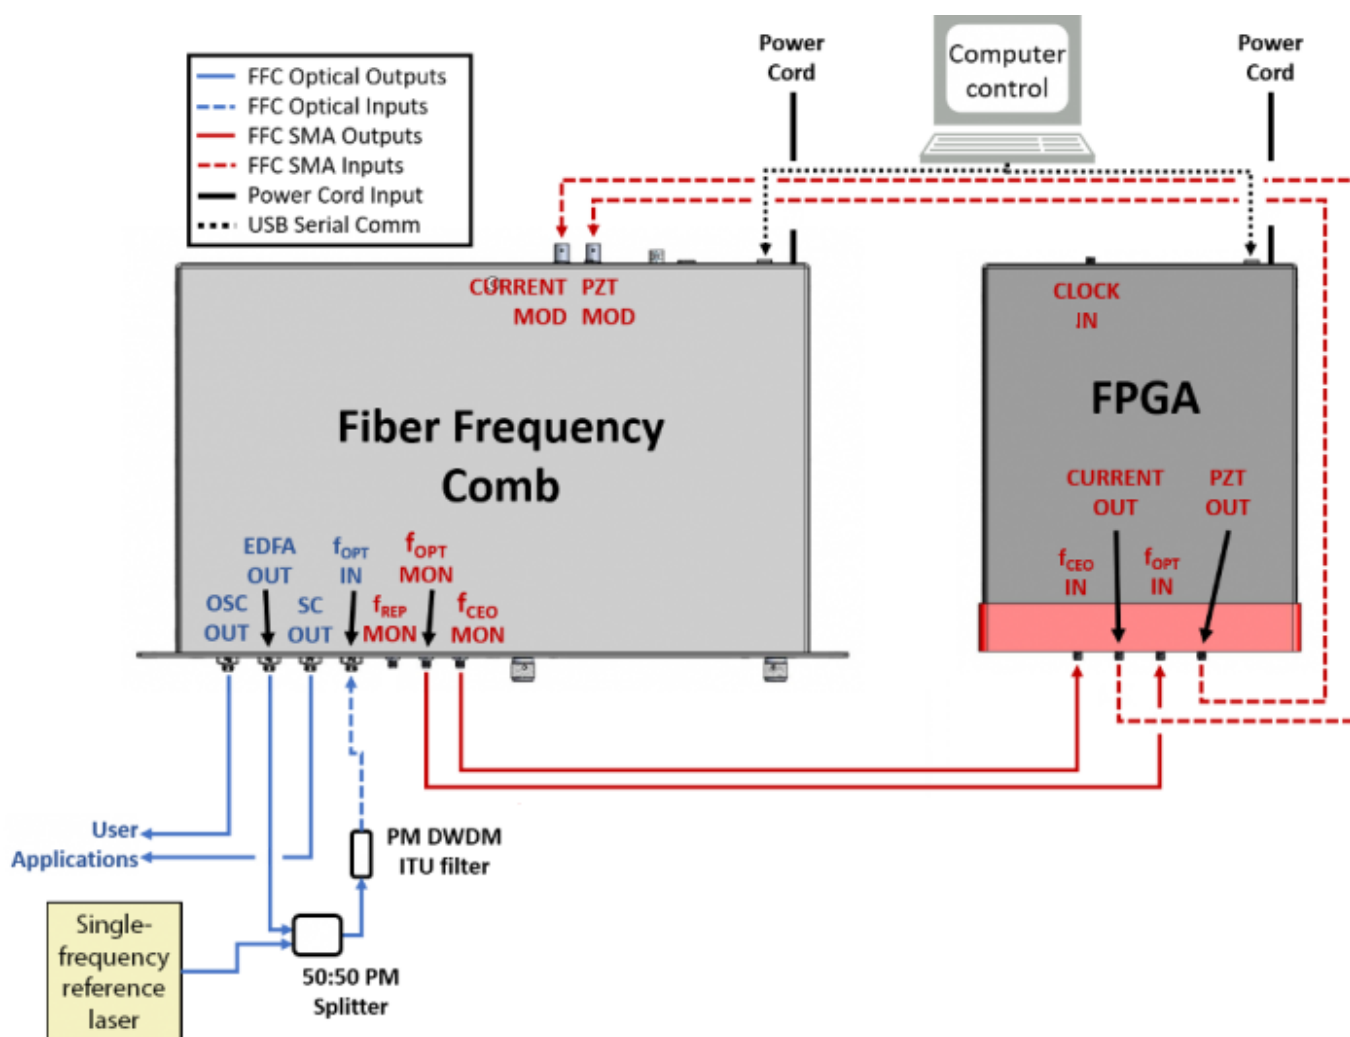

Fig. 22: FFC-100 electrical and optical connection diagram (Click for larger image)
2. Ensure all cables and fibers are connected according to the connection diagram shown in figure 22.⁵⁾ Use of the internal FPGA clock is recommended.